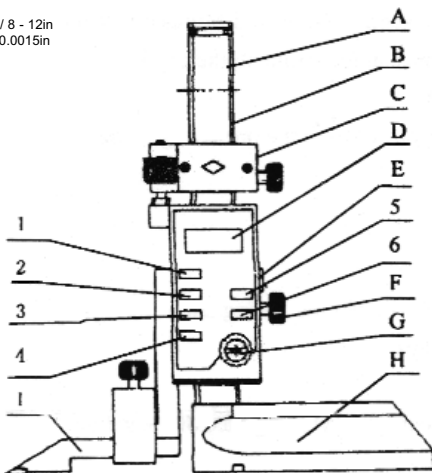

Fig 1
- 3.1 Turn the gauge on by pressing the power button (Fig 1 #1).
- 3.2 Select the desired units of measurement (inch / mm) using the selection button (Fig 1 #2).
- 3.3 Select Relative or Absolute measuring mode (Fig 1 #3).
- 3.4 To set the gauge to absolute zero at any point, press the Zero setting button (Fig 1 #4).
- 3.5 To set the origin to a value other than zero, use the +/- preset buttons (Fig 1 #5 #6).
- 3.7 To accurately position the slider, use the fine adjustment set (Fig 1 #C).
- 3.8 To fix the position of the slider itself e.g. for using the scriber, tighten the fastening screw F (Fig 1).